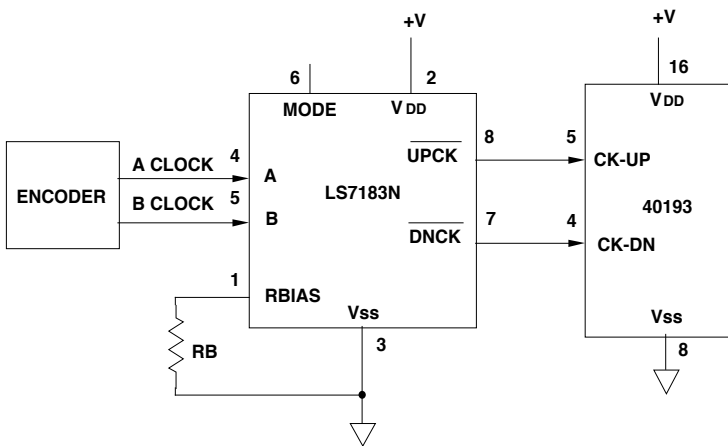
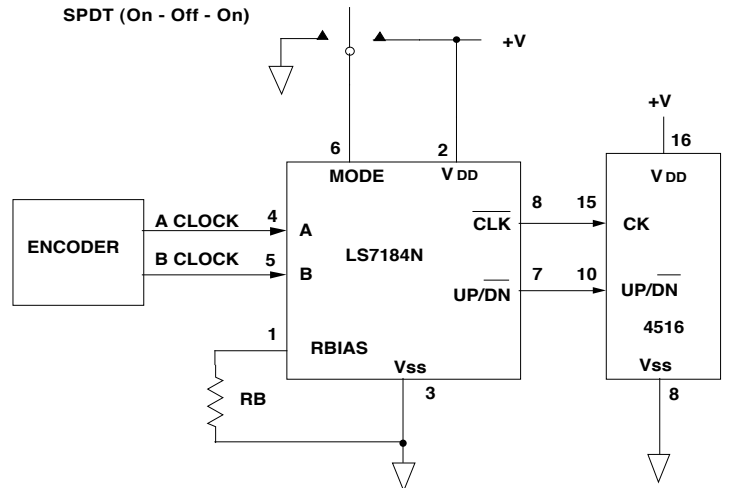

FIGURE 6A. TYPICAL APPLICATION FOR LS7183N in x4 MODE
FIGURE 6B*. TYPICAL APPLICATION FOR LS7184N WITH MODE SELECTION
- Interface incremental encoders to Up / Down Counters (See Figure 6A and Figure 6B)